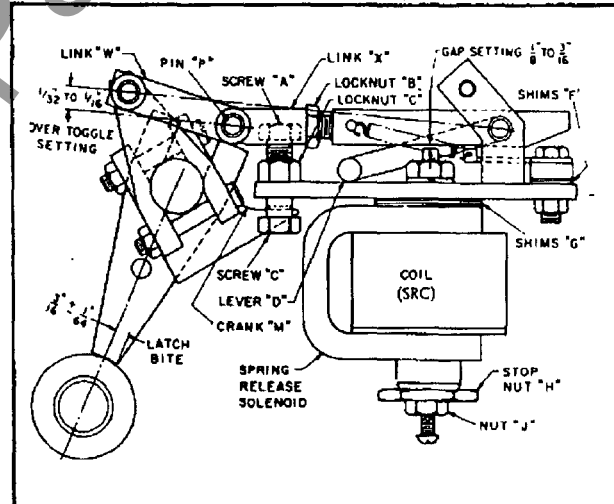

Fig. 15 - Spring release latch and over toggle linkage.
Spring Release Latch and Over Toggle Linkage - To change bite of spring release latch (Fig. 15), disconnect links (W and X) by removing pin (P) and turning screw (A) against crank (M). Check visually to see that bite is 3/16-in., or point of contact at about the center of the latch (18). Lock screw (A) with locknut (C). Adjust link (X), if necessary, so that pin (P) can be easily inserted. To adjust link (X), loosen locknut (B) and rotate the link end to increase or decrease its length.
Spring Discharge - During insertion or removal of the switch from its cubicle, the closing springs of the operator will discharge automatically. This is done by release roll (6) (Fig. 16) passing over interlock angle (5), mounted on the cubicle floor. As the release roll passes over the interlock angle, it rises and pushes up on the spring assembly (3). This causes link (1) to rotate pin (8) which raises lever (D) and link (X) (Fig. 15), releasing the closing springs.